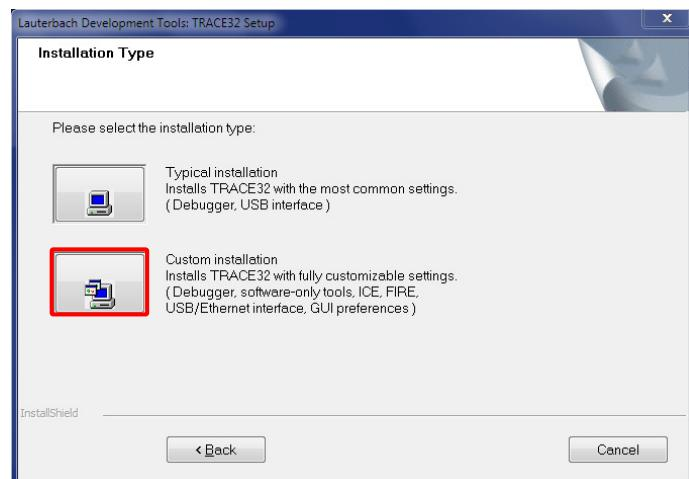

Figure 5.23: **Installation Type** page
3. On the **Installation Type** page, select **Custom Installation** (see Figure 5.23 on the next page).